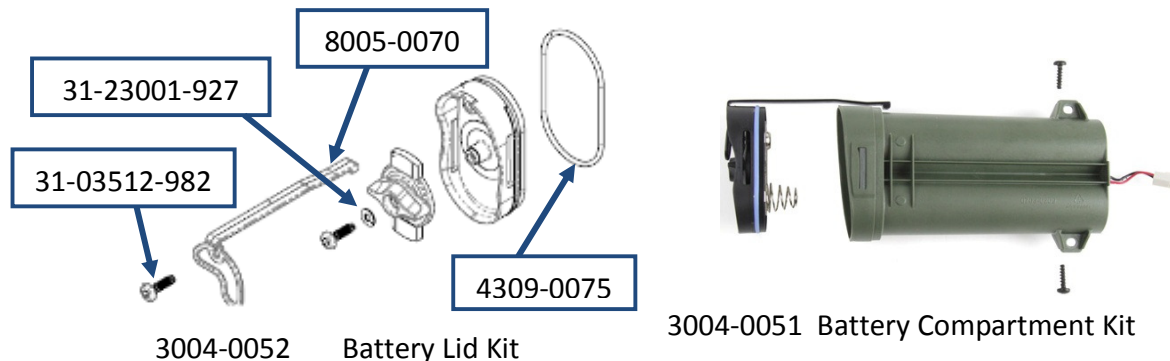

Figure 86: Battery Service Kits
- a. The armrest is a line replaceable unit with or without slide as shown in Figure 86.
a. The battery compartment and the battery lid are line replaceable units and available as service kits which include associated parts as shown in Figure 86.